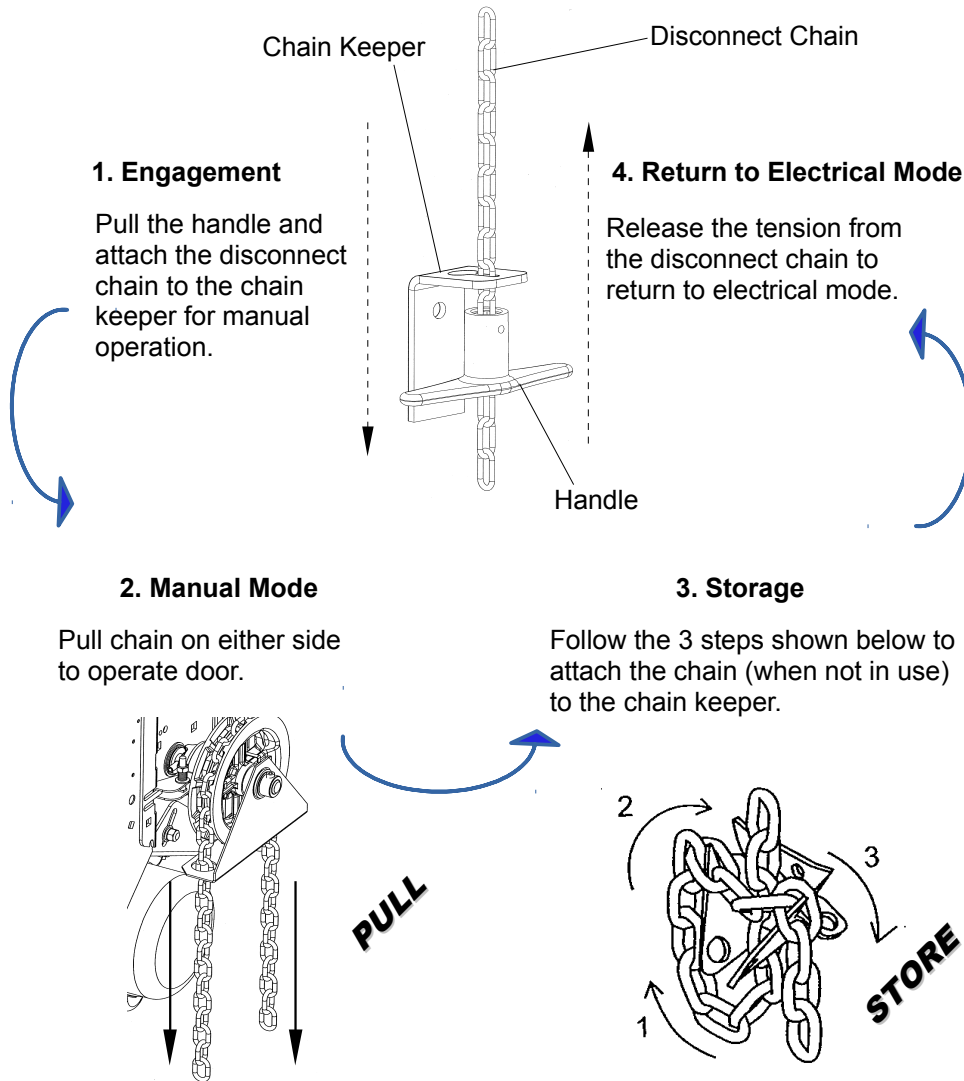

Figure 11 - Hoist Engagement and Hoist Operation
- engage the manual hoist mechanism, see Figure 11